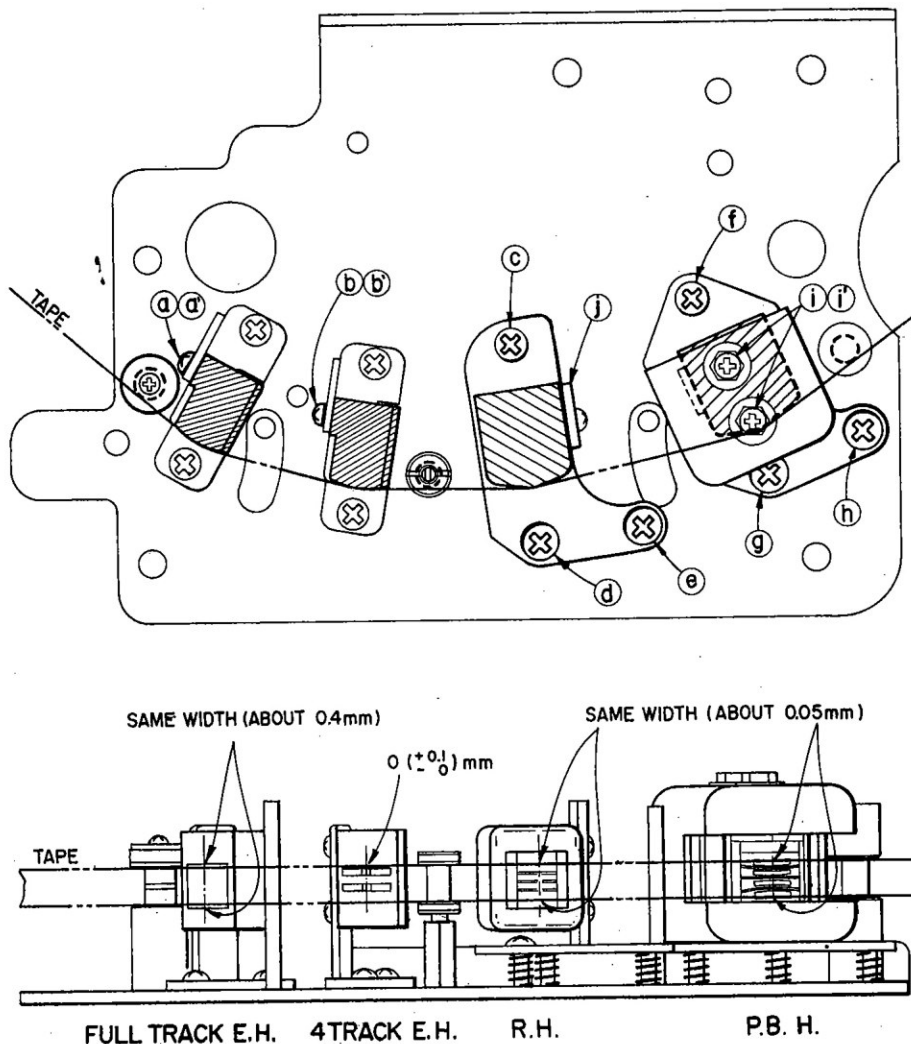

Fig. 16
At playback mode, loosen head height control screws (b) (b') shown in Fig. 16, and adjust so that the upper edge of the tape is about 0.1 mm lower than the upper edge of the left channel head core of the 4-track erase head.
At playback mode, adjust recording head height by turning head height control screws (c), (d), (e) shown in Fig. 16 to left and right until the upper edge of the tape is the same height as the upper edge of track-1 head core of the recording head. At this time confirm that the lower edge of the tape is also the same height as the lower edge of track-4 head core of the recording head.
With head height control screws (f) (g) (h) shown in Fig. 16, adjust the playback head height in the same way as outlined above for recording head.
- At playback mode, adjust alignment adjustment screw (h) shown in Fig. 16 by turning to left and right until the line output level of both channels is maximum.
- When the above adjustment has been completed, adjust the gap side of the recording head by bending recording head installation angle (i) shown in Fig. 16 to left and right until the line output level (both channels) does not fluctuate when tension is applied to the supply reel.